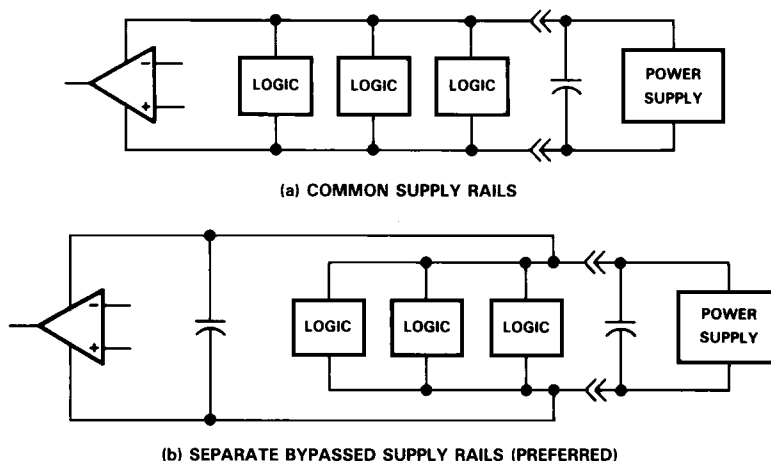

FIGURE 39. COMMON VS SEPARATE SUPPLY RAILS
1. Power the linear devices from separate bypassed supply lines (see Figure 39); otherwise the linear device supply rails can fluctuate due to voltage drops caused by high switching currents in the digital logic.